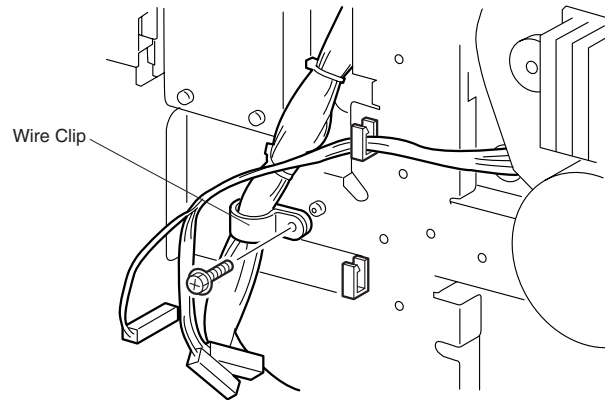

Figure 1
3. Remove the screw securing the wire clip to the Paper Handling Drive Assembly and move the clip and harness out of the way (Figure 1).